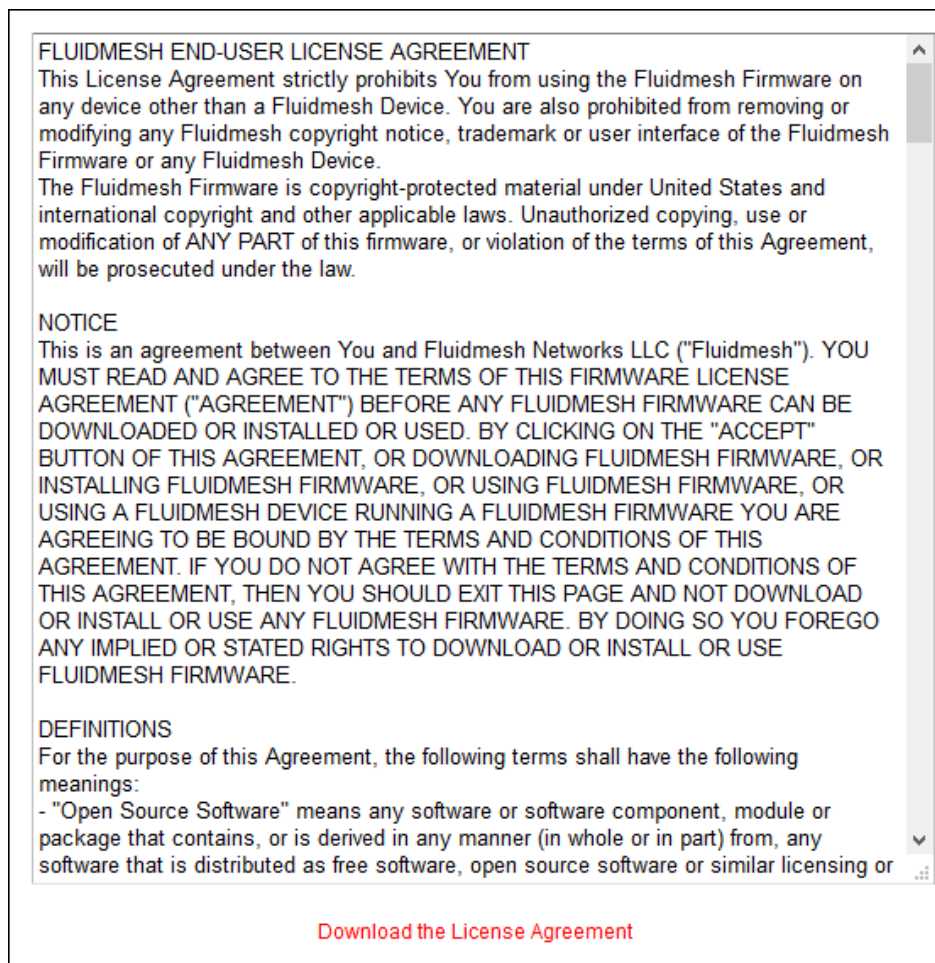

Figure 49. Configurator GUI (End-user license agreement)
- The license agreement dialog will be shown (Figure 49 (page 99)).